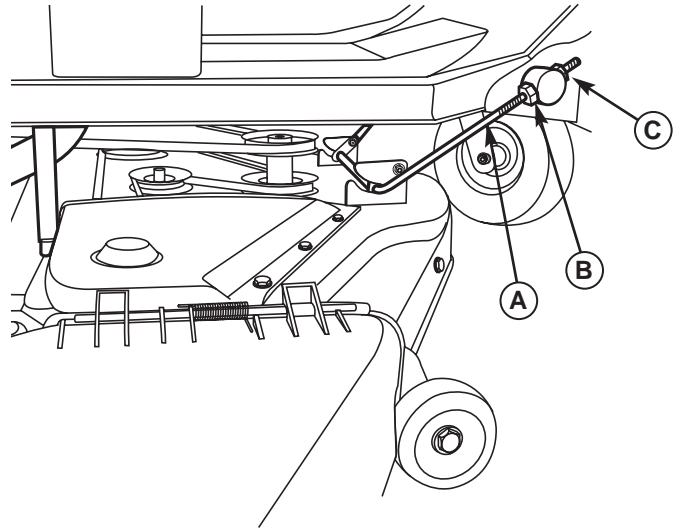

Figure 39. Front-to-Back Leveling
2. The front mower hitch rod (A, Figure 39) is used to adjust front-to-back leveling. To raise or lower the front of mower deck, loosen the two rear jam nuts (B) on both sides of the hitch rod (A). Adjust the front jam nuts (C) on both sides of the hitch rod (A) to adjust the deck level. When adjusted correctly, tighten the rear jam nuts (B) to lock hitch rod in place.